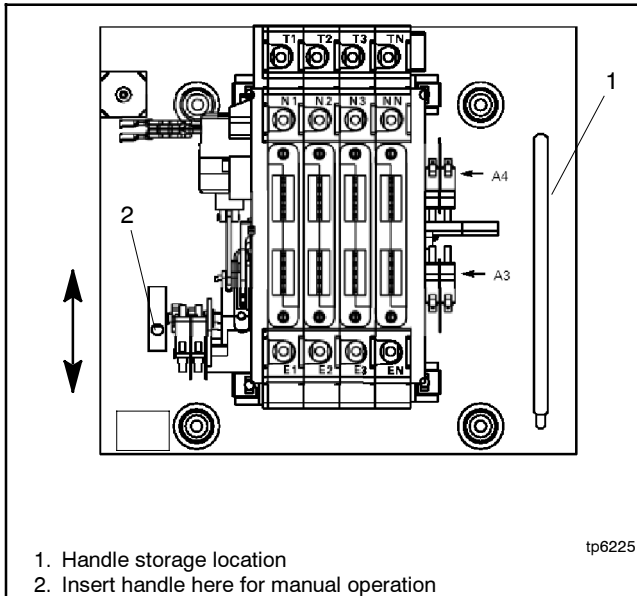
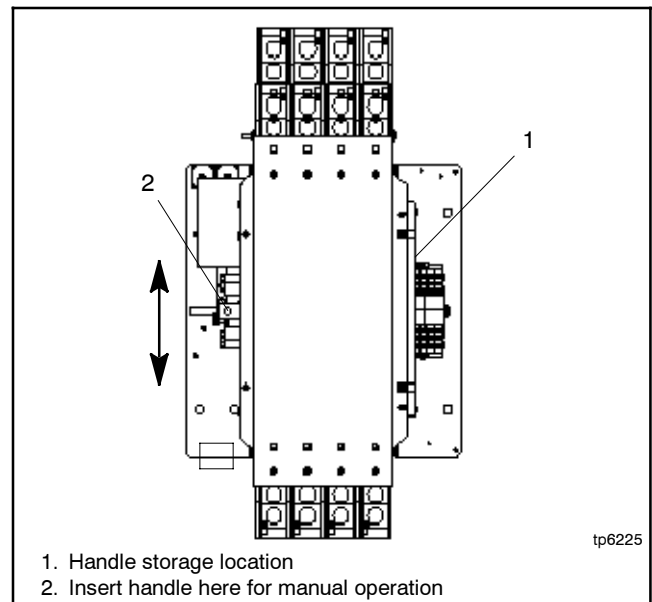
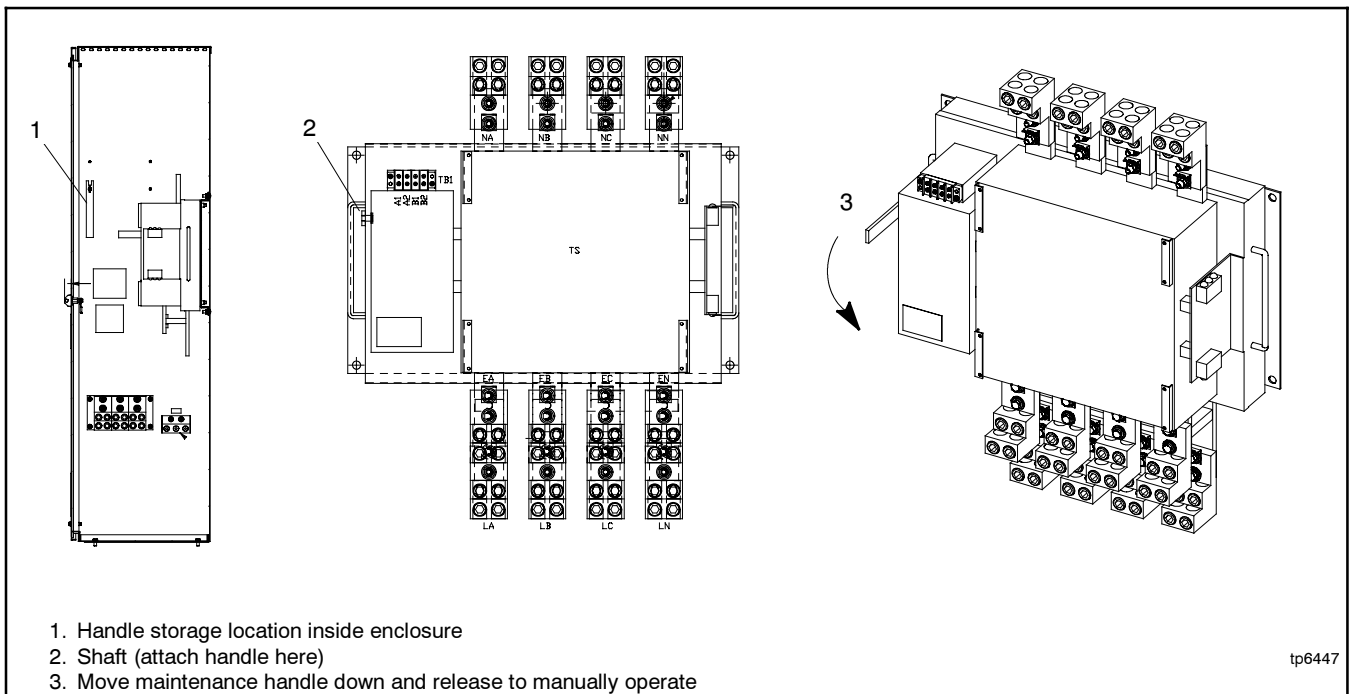

Figure 2-5 Manual Operation, 40-260 Amp Standard-Transition Switches
Figure 2-6 Manual Operation, 400-600 Amp Standard-Transition Switches
Figure 2-7 Manual Operation, 800-1000 Amp Standard-Transition Switches
1. Remove the maintenance handle from its storage location inside the enclosure. See Figure 2-5 through Figure 2-7.
- a. 40–600 Amp switches: Insert the maintenance handle into the hole in the shaft on the left side of the operator as shown in Figure 2-5 or Figure 2-6.
- b. 800–1000 Amp switches: Slide the maintenance handle over the square shaft on the left side of the operator as shown in Figure 2-7.